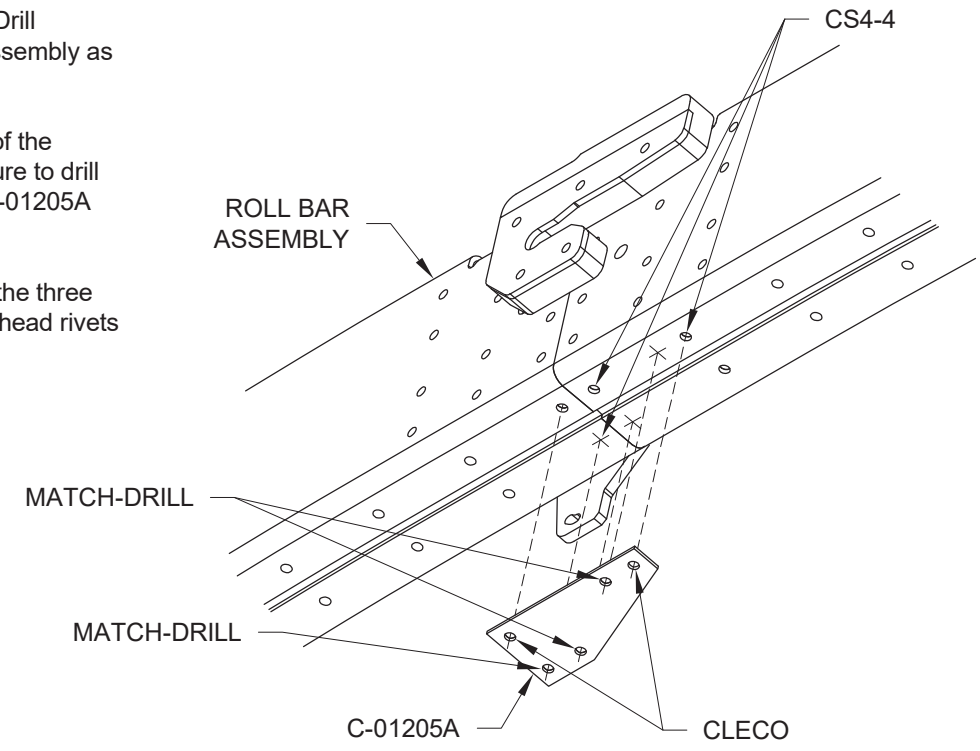

FIGURE 1: DRILLING FOR THE CANOPY LATCH BLOCK
Step 1: Cleco the C-01205A Canopy Block Drill Template onto the bottom of the Roll Bar Assembly as shown in Figure 1.
Step 3: Machine countersink and then rivet the three holes in the Roll Bar Assembly for the flush head rivets called-out in Figure 1.